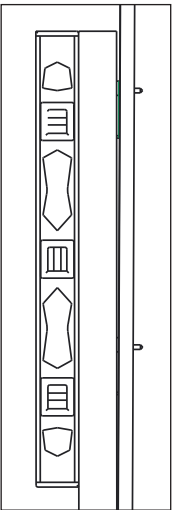

Figure 6: Verify Plumbness
5. Add shims on the started hardware between the tube and the wall and use a level to ensure the tube remains plumb to the wall and flat over the entire length of the tube. Refer to **Figure 6**. If the appropriate amount of shims is not used, the wall anchors can bow.